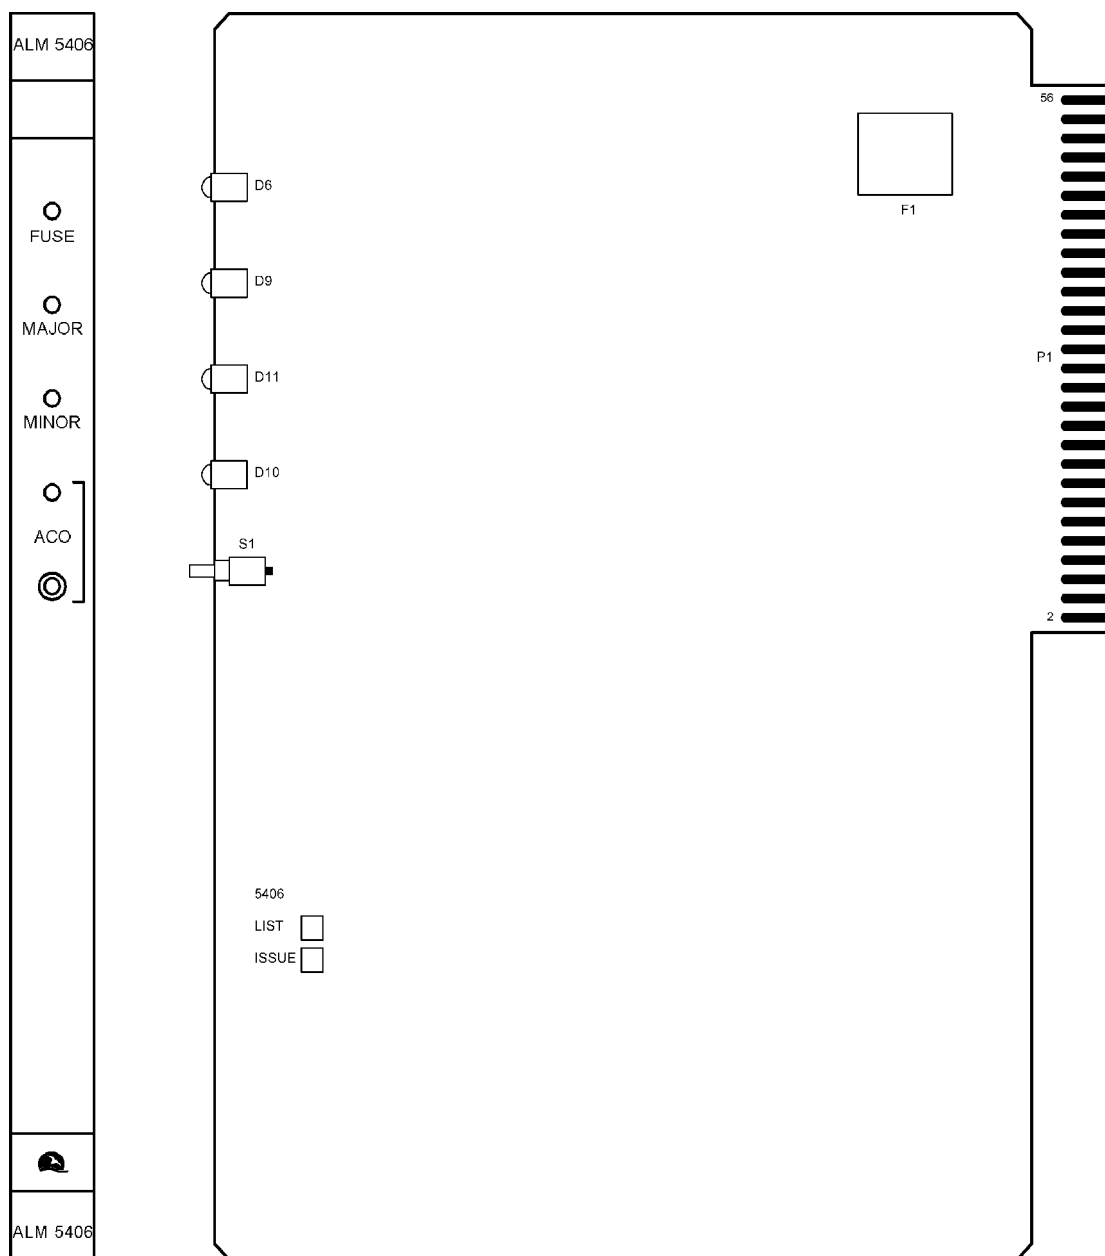

Figure 3-7. Model 5406 Alarm Interface Card with Front Panel
3.361 For card layout and front panel of the Model 5406, refer to Figure 3-7.